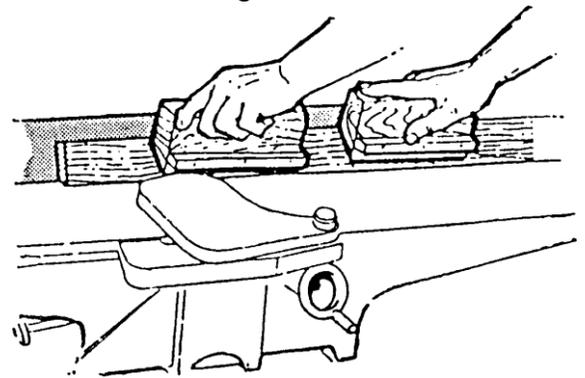

Fig. 28
9. When beveling material less than 3" (76mm) wide, use beveled push blocks and apply pressure toward the fence. Keep fingers near top of push block (Fig. 28).